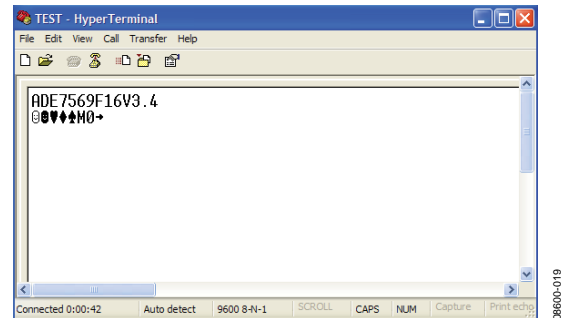

Figure 16. HyperTerminal
9. The ADE71xx/ADE75xx/ADE51xx/ADE55xx identification string should appear on the HyperTerminal window, as shown in Figure 16.